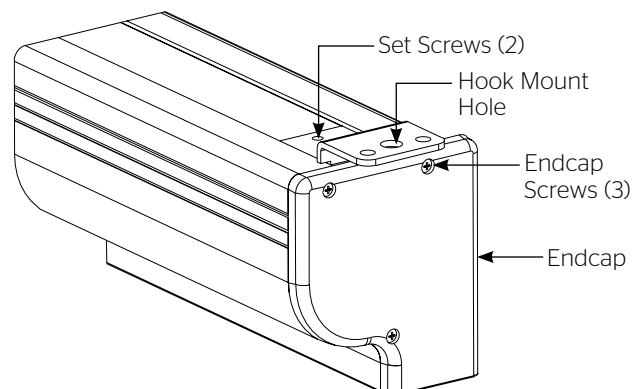

Figure 3
3. The top of the screen case has a channel that the ceiling hook brackets slide into. Remove the end cap on the right end of the case and insert the brackets into the case channel. Lock the brackets in place by tightening two set screws. Refer to figure 3.